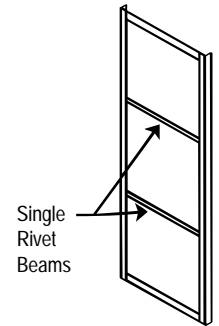

FIGURE 6
Units 9' and 10' tall must have (2) levels of single rivet beams from the front to the back dividing the unit into thirds. See *Figure 6*.